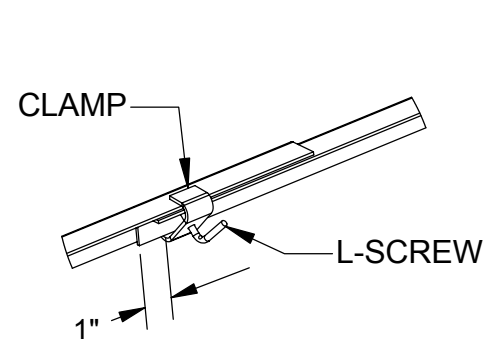

Figure 3
Step 3: Overlap CROSS ARMS. Slide CLAMP onto overlapped CROSS ARMS. Position CLAMP one inch from edge of lower CROSS ARM as shown in Figure 3.